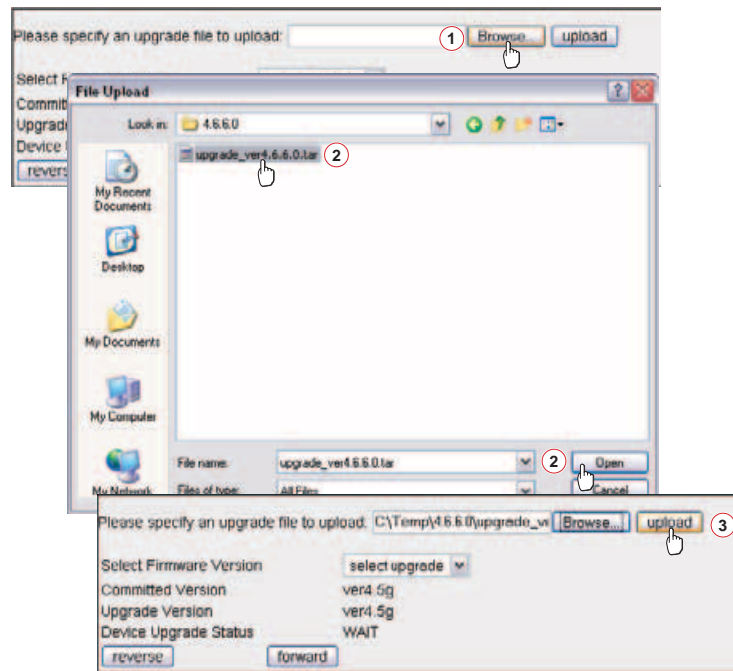

Figure 44. Upload a Firmware File to the Controller Codec
- On the device page, click the **Upgrade** tab (②). The upgrade page appears (③). The page includes the following drop-down box and data fields:
4. Click the **Browse** button (①). The File Upload window (see figure 44) opens.